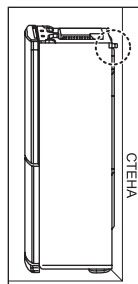

Figure 2. Installation of refrigerator to wall
- The refrigerator is not a built-in appliance. Free space not less than 5 cm should be provided from above, from its rear and side faces for air circulation and reduction of power consumption. Fig.2;